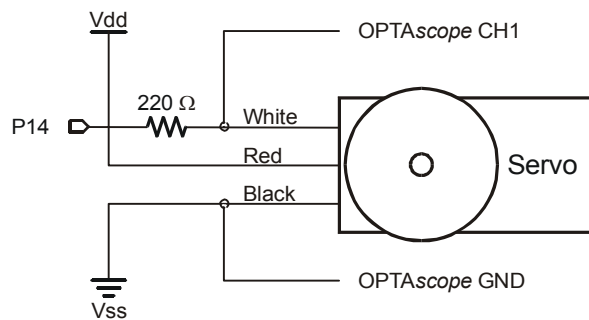
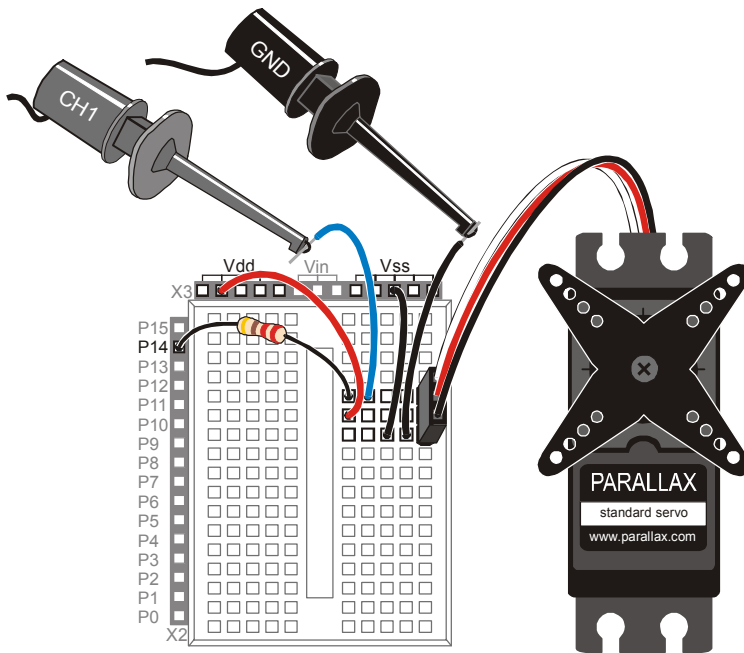

Figure 2-2:
Figure 2-3:
- ✓ Build the circuit as shown in Figure 2-2 Figure 2-3:
- ✓ Connect the OPTAscope CH1 probe to P14 and the GND probe to Vss as shown in Figure 2-3: